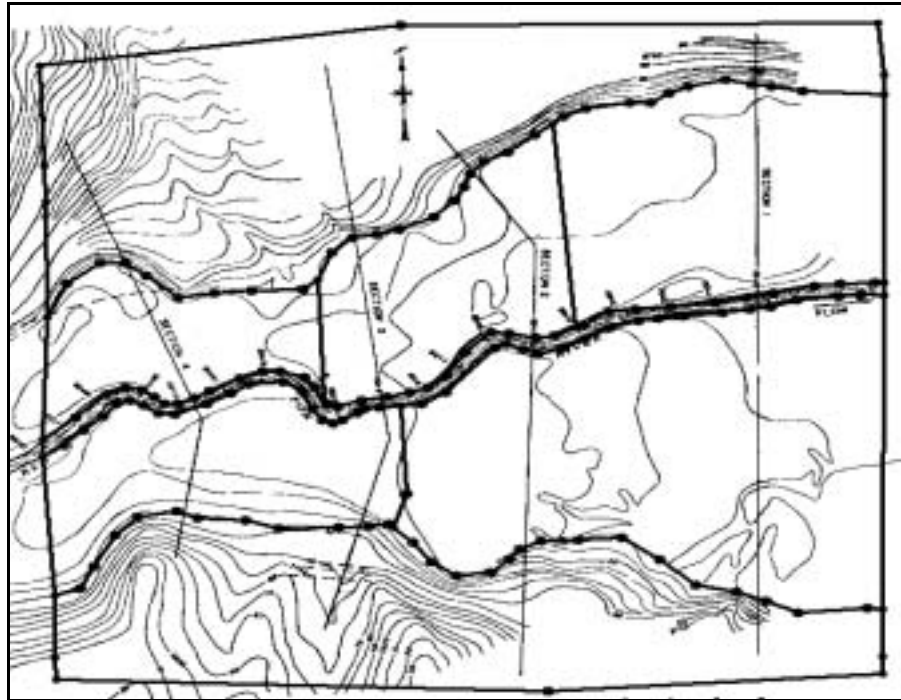

Figure 16-4 The land area boundaries.
3. Create arcs to separate the different land types. Create arcs in approximately the same locations as shown in Figure 16-4.